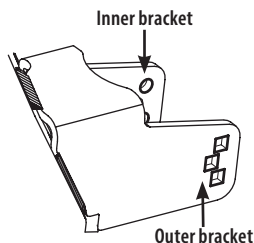

Figure 17
**NOTE:** On the left side and right side deck gauge wheels, the shoulder screw must be installed from the outside of the tractor inward, through the square hole on the bracket. On center deck gauge wheels (if equipped), the shoulder screw side of the assembly can be installed from either direction (Figure 17).